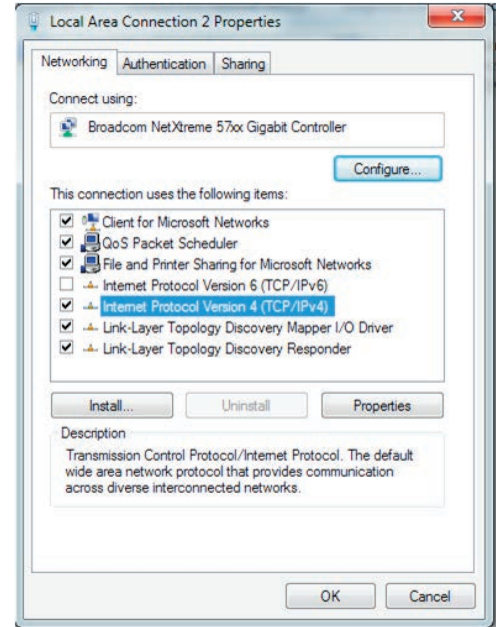

Figure 2
4. Highlight “Internet Protocol Version 4 (TCP/IPv4)” and press the “Properties” button (refer to Figure 2).